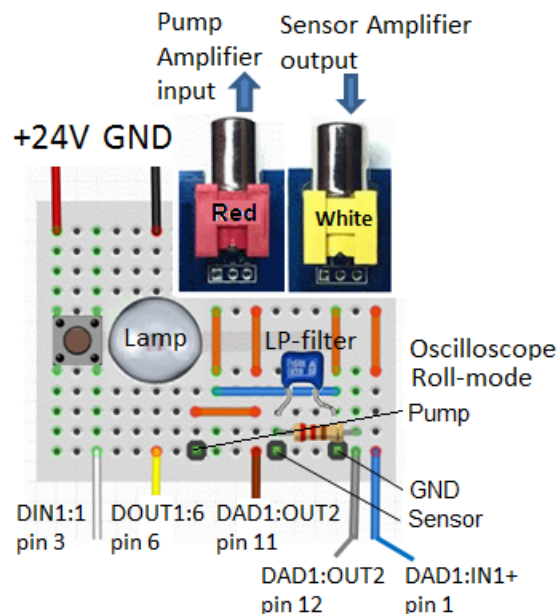

Figure 6: Breadboard for RCA contacts and PLC connections, start button, and 24V lamp.
**Start Button** The controller will start when the Start Button is pressed. Pressing the start button should connect PLC+ to *Digital input 1* on Smart I/O, see figure 6.